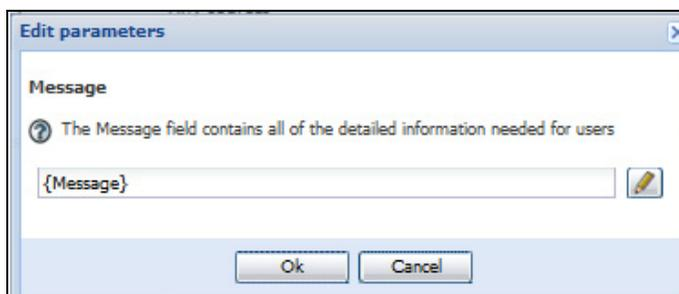

Figure 27. Edit Window for Messages
2. Double-click the action in the Action Settings panel (see Figure 27).